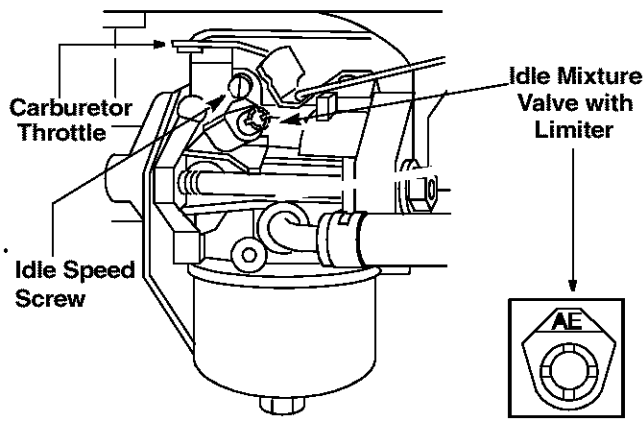

Figure 14
3. Rotate carburetor throttle lever against the idle speed screw and hold it. See Figure 14. Turn idle speed screw to obtain 1750 rpm, using a tachometer to measure.